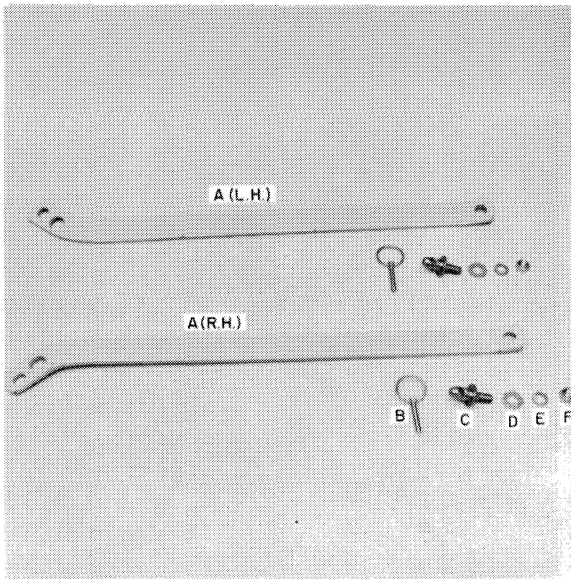
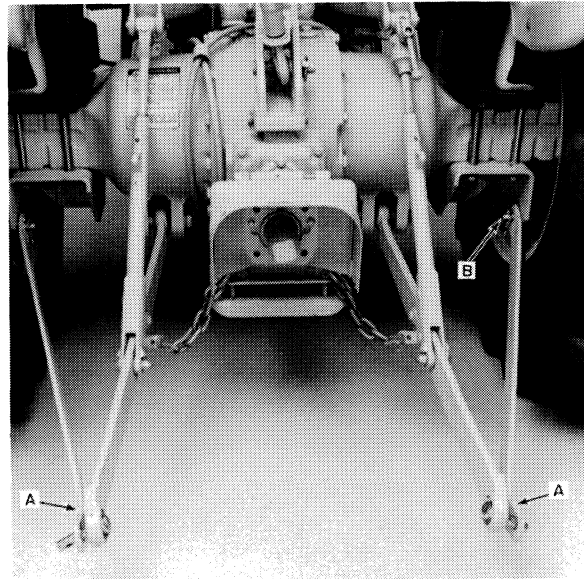

FIGURE 11-45
FIGURE 11-46
1. Install the front mounting pins, C, Figure 11-45, into the outside leg of the loader subframe, using the washer, lock washer, and nut, D, E, F, Figure 11-45. Assemble as show in Figure 11-46, and tighten to 155 ft. lbs.
2. Install the single hole end of the stabilizer arm, A, Figure 11-45, on the pin, with the bend on the opposite end toward the bottom, A, Figure 11-45. Retain the arm on the mounting pin with a lynch pin, B, Figure 11-46.